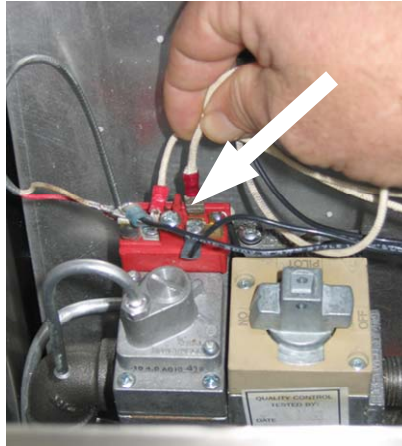

Figure 1: Unplug the white wire from the thermostat.
1. On the gas valve, remove the white wire coming from the thermostat (Figure 1).